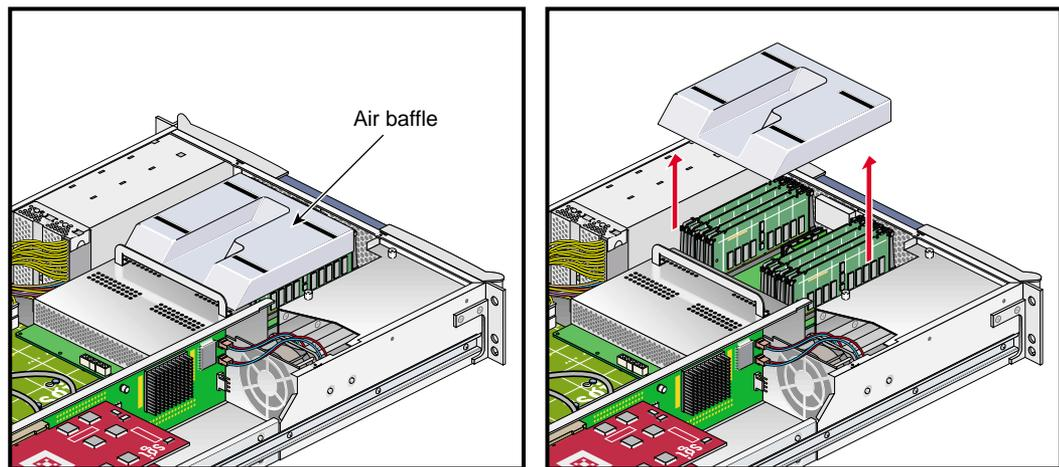

Figure A-7 Removing the Plastic Air Baffle
4. Remove the plastic air baffle covering the DIMMs, as shown in Figure A-7.
6. Remove the plastic air baffle covering the DIMMs, as shown in Figure A-7 in “Memory” on page 97.